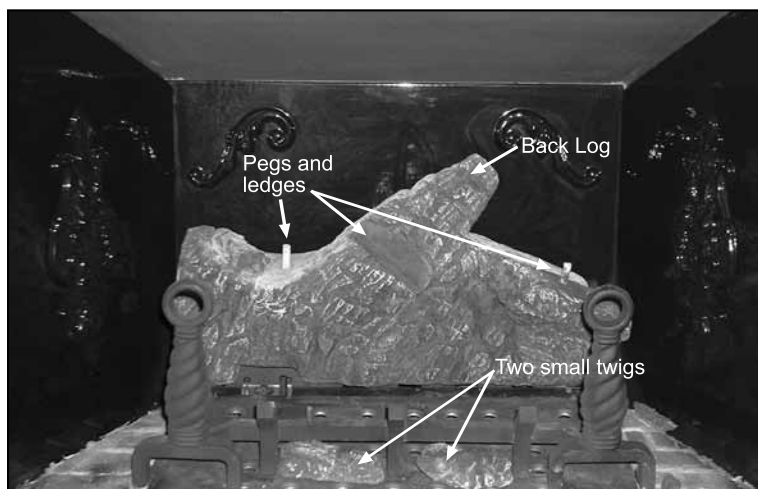

Figure 44: First Stage Log Set Installation.
The placement of the logs is not arbitrary. If they are positioned incorrectly, the flames can be “pinched” and will not burn correctly. The burner and a few of the logs come with locator pins, notches, and ledges which make alignment easier. The andirons and grate must be installed for the logs to be placed properly. Using the pictures provided, carefully set the logs in place (see figures 44 through 48).
Figure 44: Shows the **back log** plus the **two (2) small log twigs**. Put the large back log in first, making sure the locator pins line up with the cutout sections on the log. There are two (2) pins with ledges and a single ledge on the back log. The back log sits on two (2) supports attached at the rear of the firebox. The two (2) small twigs are placed under the grate and they should be rotated so they cover up the least number of small burner ports.